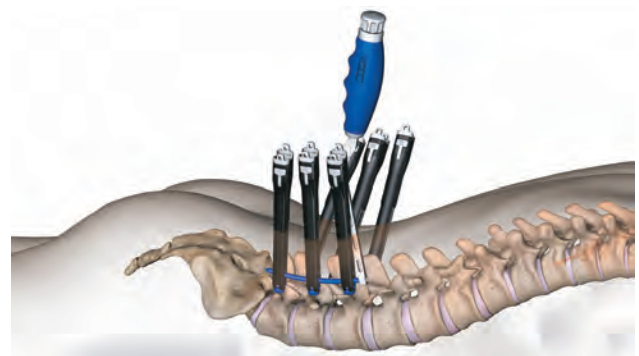

Figure 21
- Raise the handle up and pivot the rod towards the distal screw tower until the rod has been passed through all screw tower(s) (Figure 21).